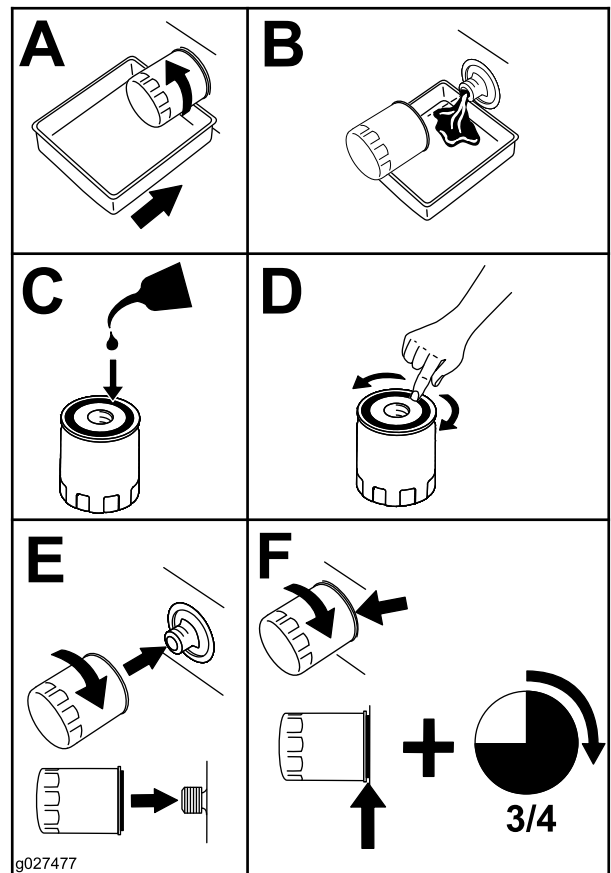

Figure 52
4. Change the engine-oil filter as shown in Figure 52.